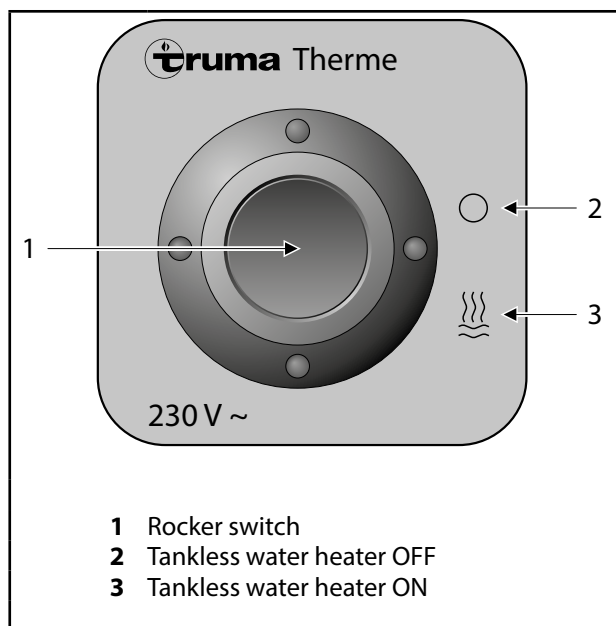

Fig. 76 Truma tankless water heater control element
1. Push the rocker switch (Fig. 76, item 1) down to position "☄", indicator lights up. The water temperature is adjusted to 60 °C by a thermostat. It takes approx. 50 minutes to heat the water from 15 °C to 60 °C.
2. To switch off the device, set the rocker switch (Fig. 76, item 1) to position "○".